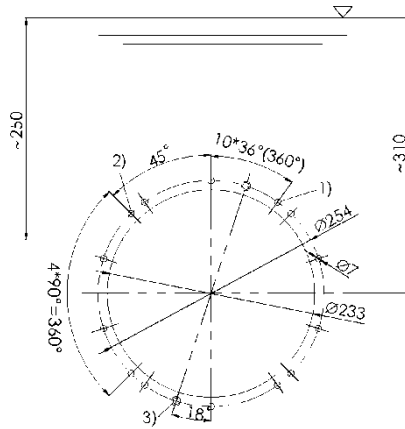
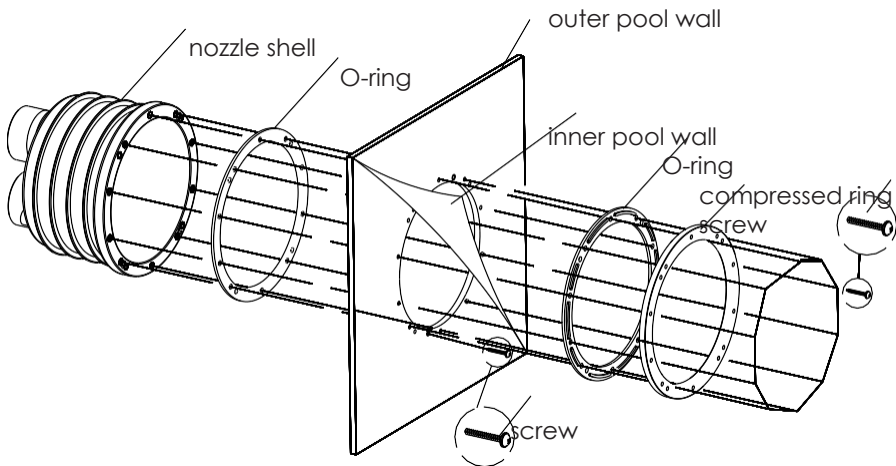

Figure 5
Figure 6
- c) For vinyl pool, according to the 16 holes on the counter current jet shell, first drill holes on the structural wall accordingly. (Figure 5)
- d) Install the plastic ring and the outer shell with 2 M6*20 screws (hole 3 of Figure 5), and then install the plastic ring and ring for installing on the fiber pool using 10 M6*45 screws .(Figure6)